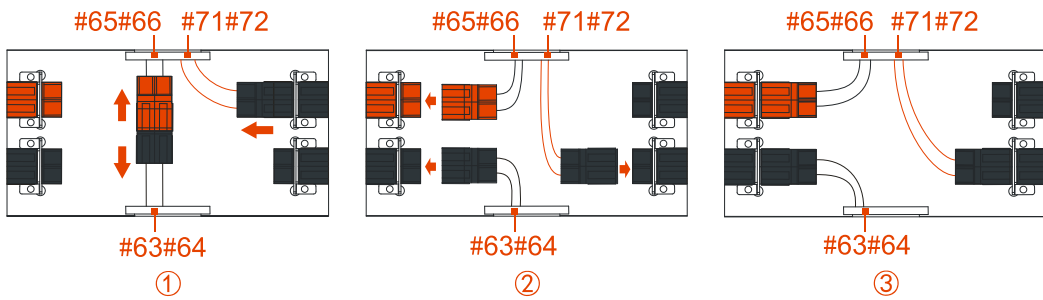
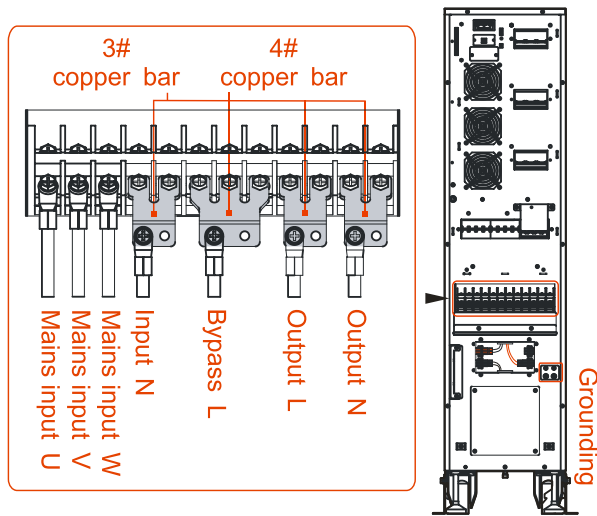

Figure3-21 Mode connector diagram of 31 mode
Figure3-22 Copper bar and wiring terminal diagram of 31 mode
When the system of 33 mode need to be converted to the 31 mode, it is necessary to first pull out the mode connector (as shown in Figure3-21 ①), then insert it into the corresponding port (as shown in Figure3-21 ② ③). Take out three copper bar 3# and one copper bar 4# (3# and 4# copper bar is optional), connect them to the wiring terminal of UPS (as shown in Figure3-22).